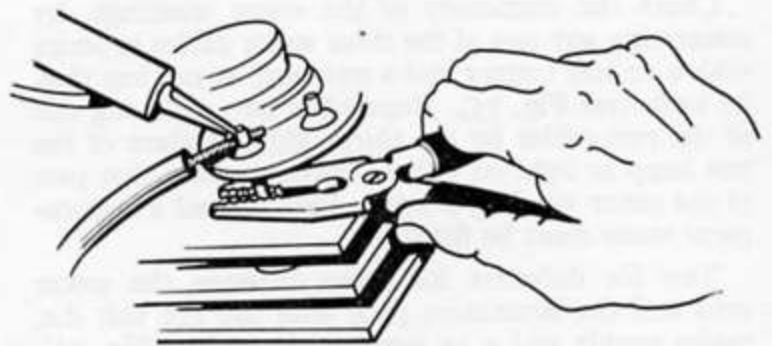

Fig. 71
4. Grip the output diode pins in turn with a pair of long-nosed pliers (see Fig. 71). Unsolder the three leads connecting the stator to the diodes. Note the order in which the connections are made (see Diode Tests for re-soldering procedure).
When re-soldering the stator cables to the diode pins, use a low melting point solder, "M" grade 45/55 tin-lead solder, or equivalent. Avoid overheating the diodes or bending the diode pins. The diode pins should be lightly gripped with a pair of long-nosed pliers, or similar tool (to act as a thermal shunt against overheating see Fig. 71) and soldering must be carried out as quickly as possible.